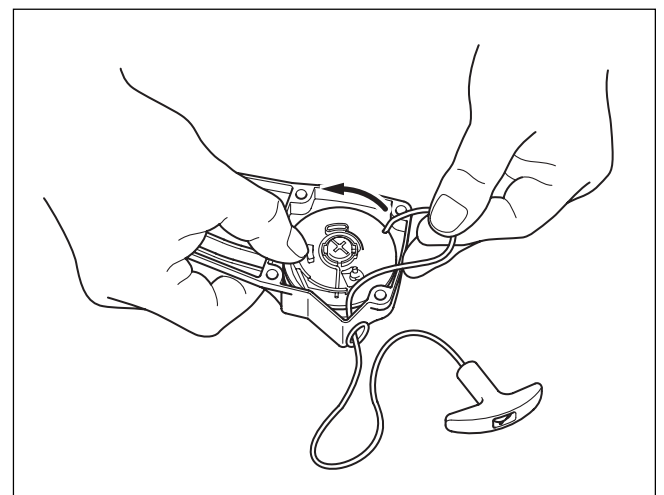

Fig. 9-5
(3) Prior to installing the reel in the starter case, wind the starter rope to the reel in the arrow direction of Figure 9-5, take out the third turn of the starter rope from the reel notch and then install the reel securely inside the starter case so that the spiral spring inner end catches the hook. Next, hold the starter rope as shown in Figure 9-5, and rotate the reel 4 to 5 turns in the arrow direction by utilizing the reel notch. After winding the reel, hold it securely to prevent it from reverse turn and pull out the starter knob to stretch the rope tight and then release the knob slowly. Reassemble the parts in reverse order of disassembling shown in Fig. 9-2. Tighten the setscrew securely.